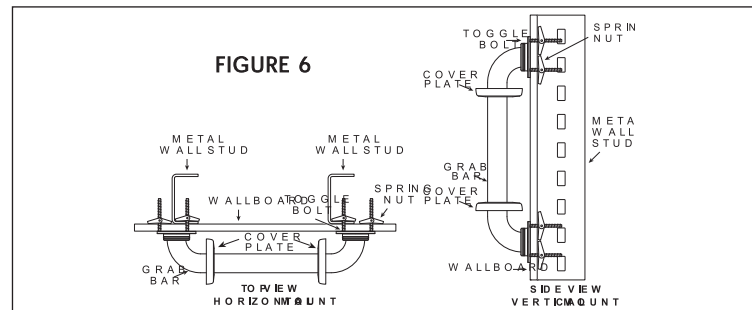

FIGURE 6
- Position the end of the Grab Bar with the TOGGLE BOLTS attached so that you can push the spring nuts and butt ends of the TOGGLE BOLTS through the corresponding holes that have been drilled. The spring nuts *must be completely* through the holes in the wall (see Figure 6).
- Pull the TOGGLE BOLTS on one end of the Grab Bar toward you and finger tighten the BOLTS to be sure that spring nuts have opened fully against the back side of the wall and metal wall studs (see Figure 6). If the spring nuts have not opened fully, loosen the bolts and repeat Step 6.